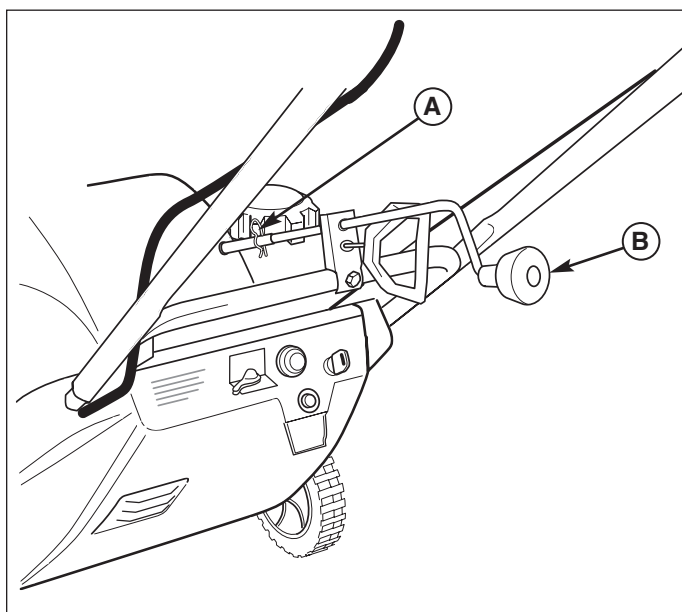

Figure 6. Discharge Chute Control Adjustment
B. Chute Direction Control - The Chute Direction Control (B, Figures 6 & 7) allows the discharge chute to be rotated to throw snow in the desired direction. Snow may be thrown at any angle from straight left to straight forward, to straight right.
The length of the chute direction control can be adjusted. Remove the cotter pin (A, Figure 6) to extend or shorten the rod to desired length, then reinstall the pin.